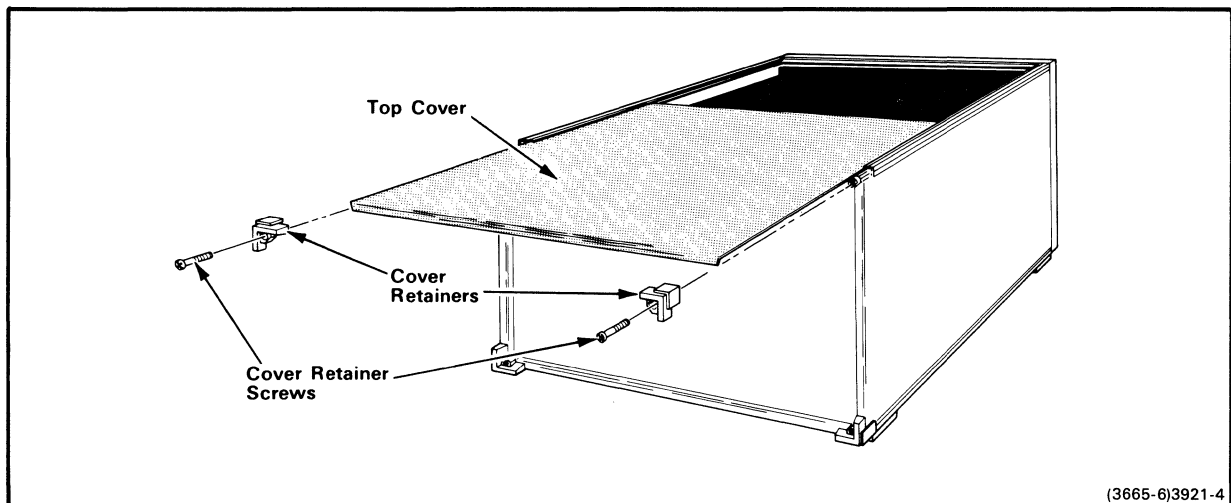

Fig. 18-2. Removing the 8540 top cover.
Set the 8540 on the surface so that you are facing the rear panel. Using a Phillips screwdriver, remove the two upper cover retainers, as shown in Fig. 18-2. Slide the top cover back and off the 8540.
1. From the rear panel, slide the top cover into the two grooves along the top edges of the mainframe. See Fig. 18-2.